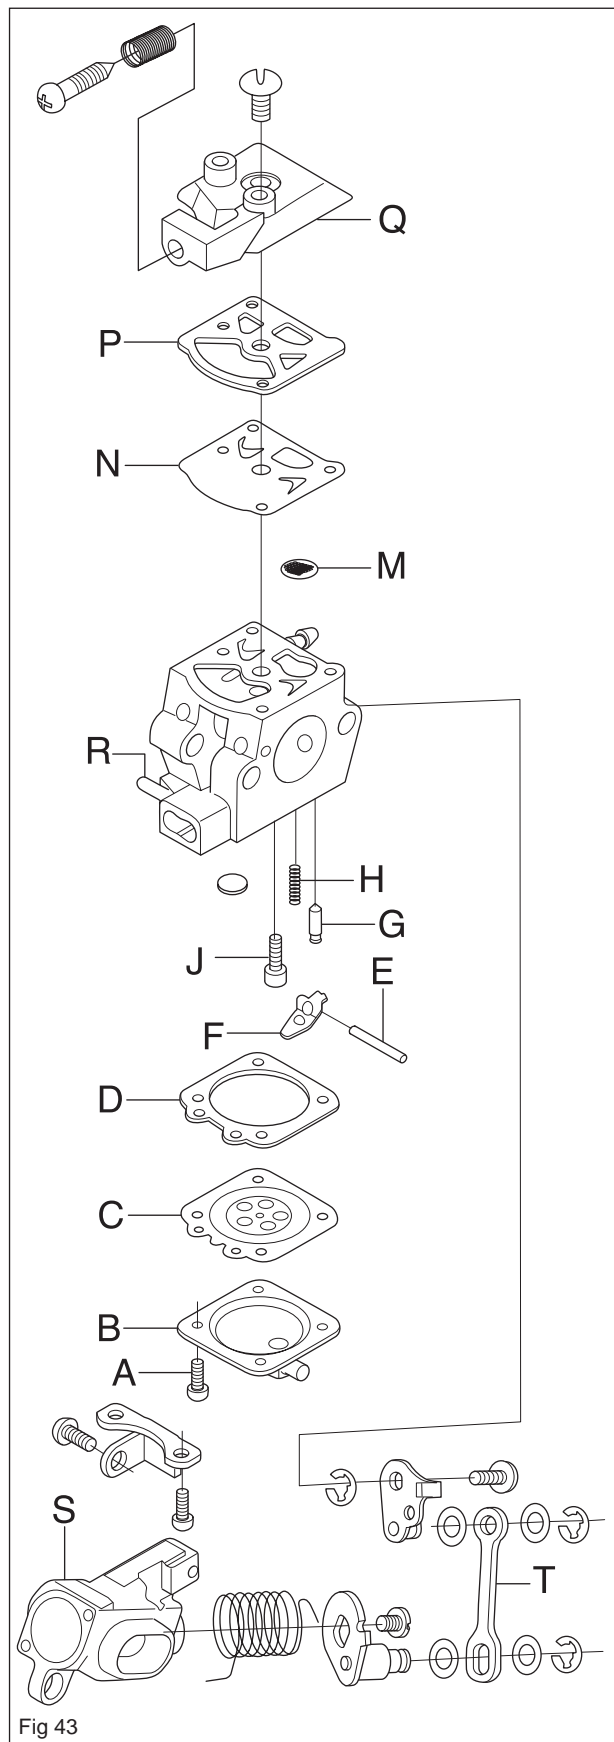

Fig 43
3. That the needle valve G and its lever arm F are not worn, see figure 43.
4. That the fuel screen M is intact and clean, see figure 43.
6. That the inlet manifold R is intact, see figure 43.